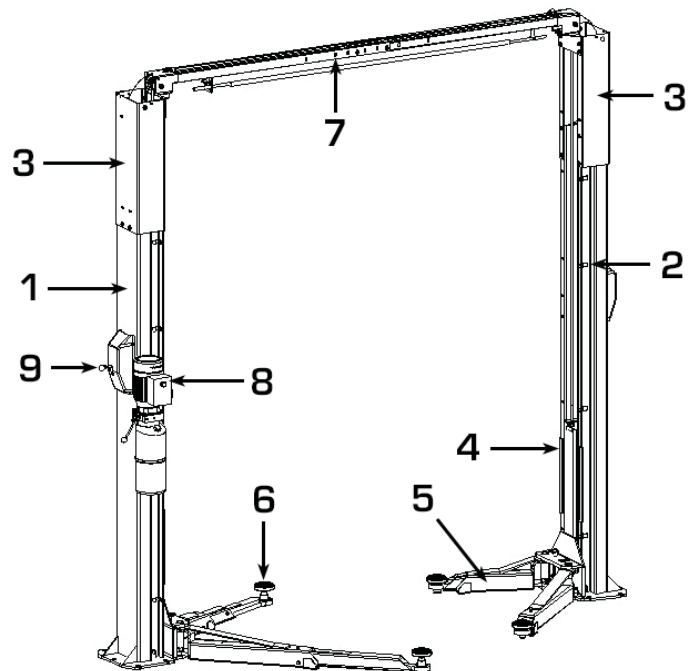

Figure 2
As shown in figure 2, the lift is composed of two columns: power-side column (1) and off-side column (2) with the extension (3) on each, each equipped with a carriage (4) and a pair of lifting arms (5) with the adaptor (6) anchored to the ground by means of the base plates.